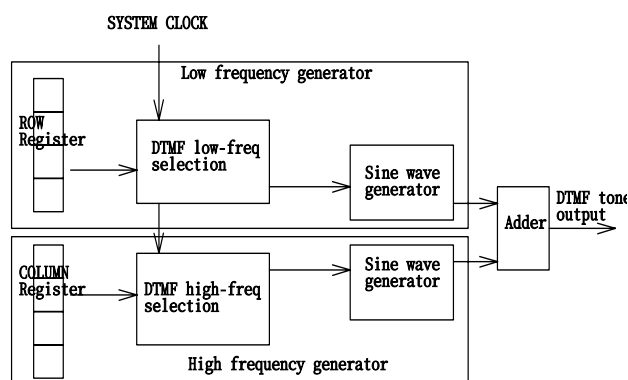

Fig.15 DTMF Block Diagram
* Bit 2~4 (Bias1~Bias3) Control bits used to choose LCD operation voltage . The circuit can refer ti figure15.